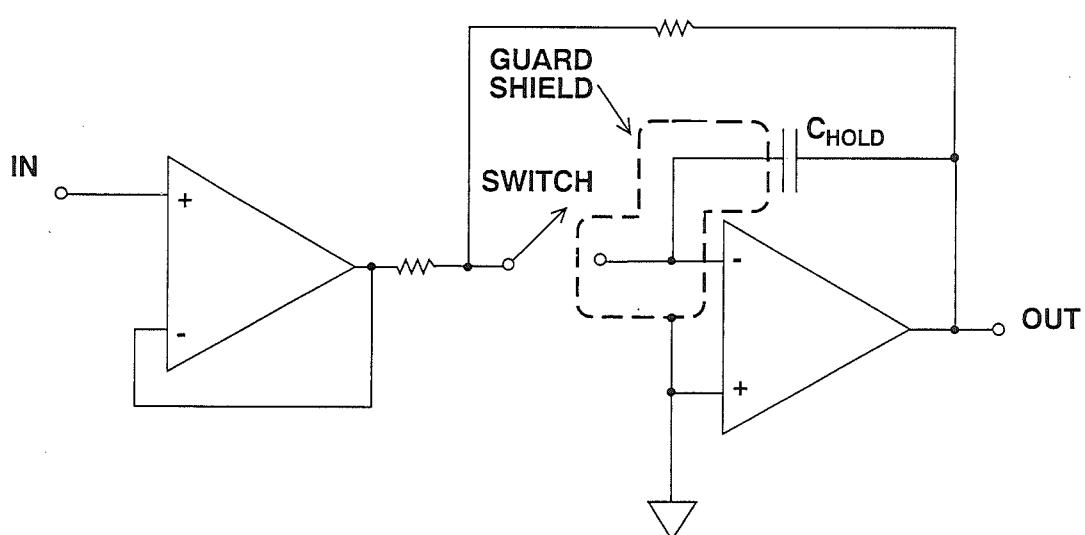

Figure 8.67
8.66, the guard ring must be driven to the correct potential, whereas the guard ring on a virtual ground can be at actual ground potential (Figure 8.67). The surface resistance of PCB material is much lower than its bulk resistance, so guard rings must always be placed on both sides of a PCB - and on multi-layer boards, guard rings should be present in all layers.